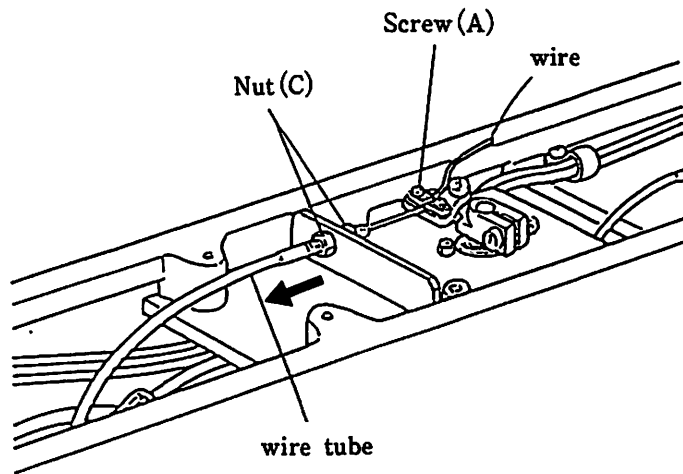

Fig. 9.31
- (4) Thread release occurs when the presser foot rises (the work holder is at the home position when the power is switched ON or the fabric is fed without stitching) and when threads are trimmed.
- (5) Adjusting the amount of thread release during thread trimming
- To adjust, remove the top cover, loosen nut (C) shown in Fig. 9.31 and move the wire tube. The opening of the discs will increase when turned to the arrow.